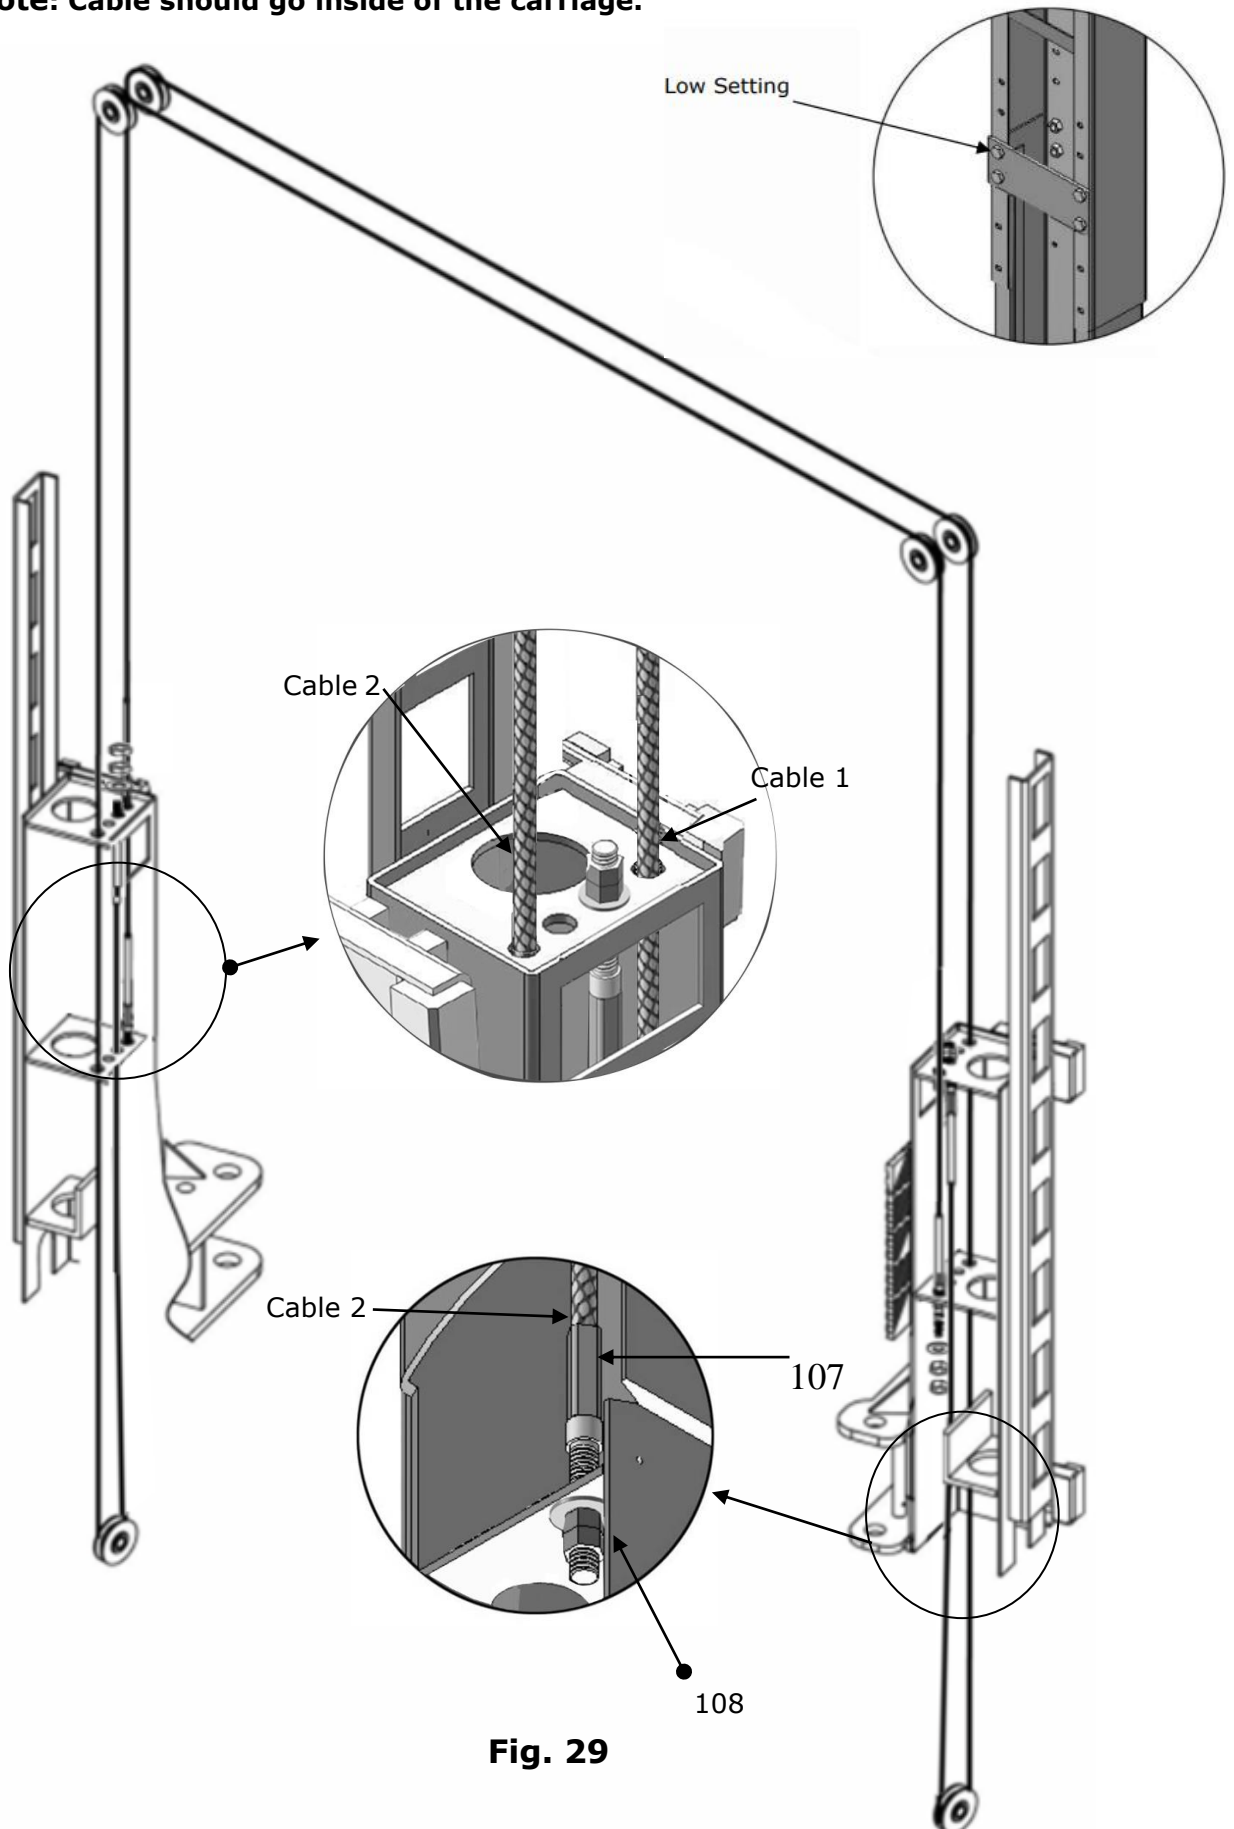

Fig. 29
2. Low setting cable connection; suitable for ceiling heights between 165 3/8" to 177 1/8". (See Fig. 29)